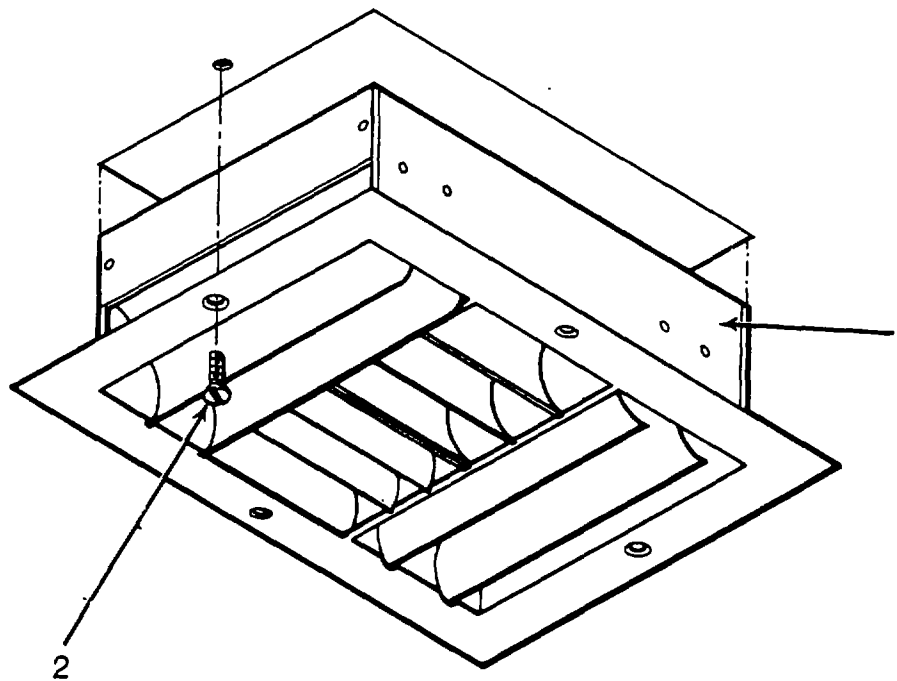

Figure 4-7. Air Conditioner Ducting Assembly 4-Way Register
a. Repair by replacing ceiling vent 4-way register (1). (Figure 4-7.)
(1) Remove mounting screws (2) from register housing and remove register (1) from AC ducting assembly.
(2) Align replacement register (1) over holes in AC ducting assembly and secure in place with mounting screws (2).